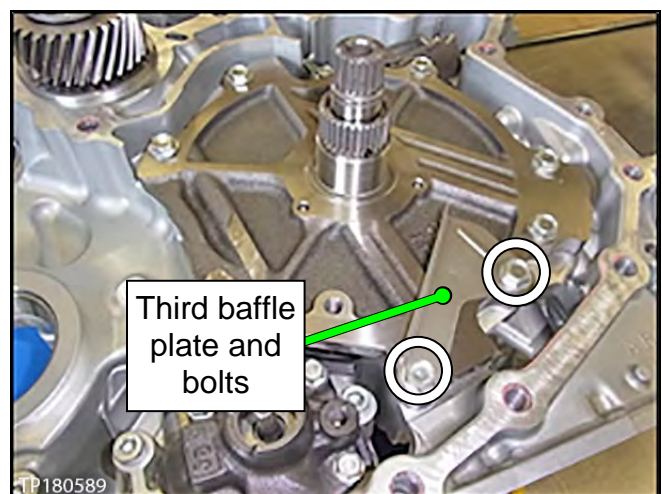

Figure 38
6. Remove the two (2) bolts, and then remove the third baffle plate (see Figure 38).